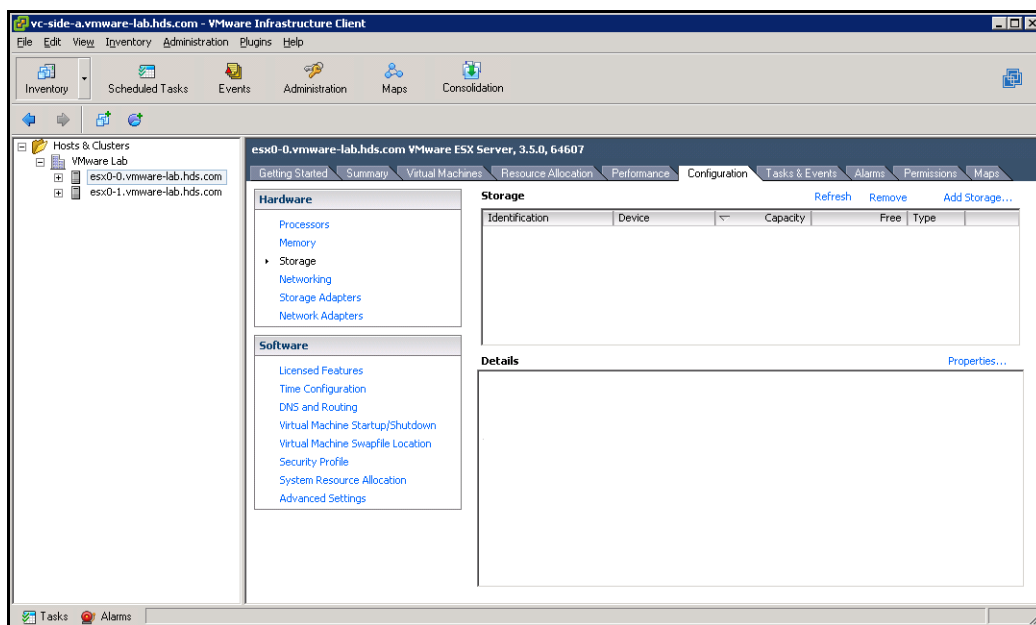

Figure 4-16: Initial VMware Infrastructure Client Page with Storage Selected
14. From the VMware Infrastructure page (Figure 4-16), select a VMware host in the left pane and click **Storage** under **Hardware**.